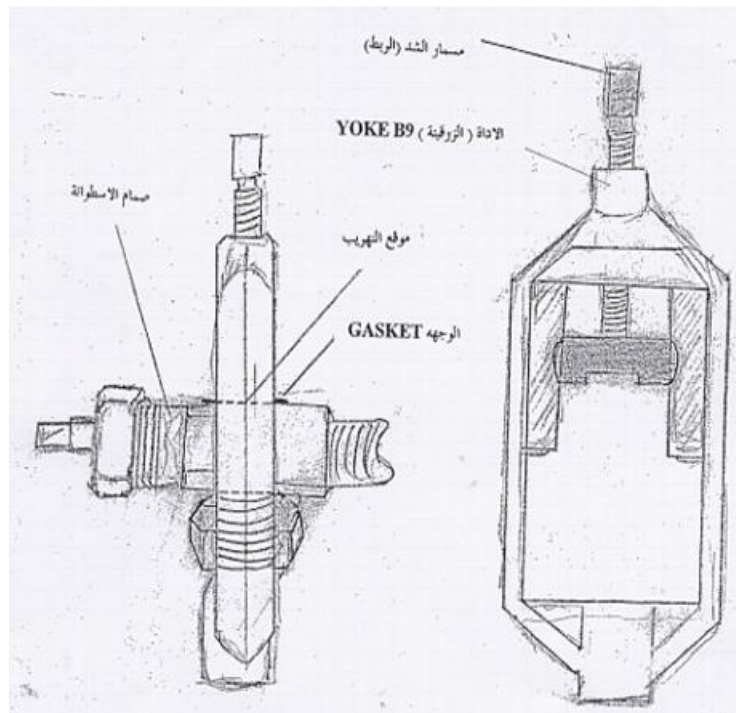

Figure 27: Leakage Stopping Method for the Main Valve of the Container
** When the leakage is in one of the two main chlorine container valves from the opposite side of the chlorine gas exit line (Fig. 27), the following shall be done: